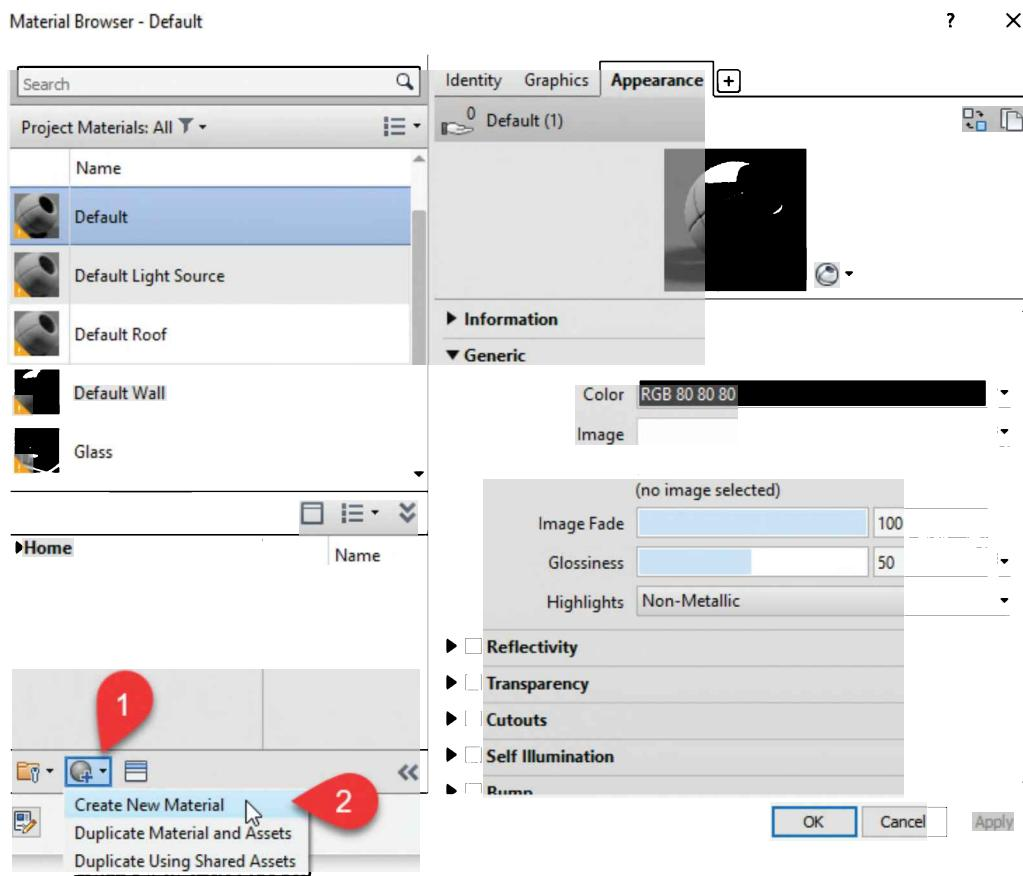

FIGURE 17-4.7 Materials for the Box Family, not the Box Project
Notice the *Family* has a limited number of *Materials* loaded; see Figure 17-4.7. The following sequence of steps will show how to create a new *Material* and define it.
17. Click the **Create New Material** icon in the lower left corner; see arrow in Figure 17-4.7.